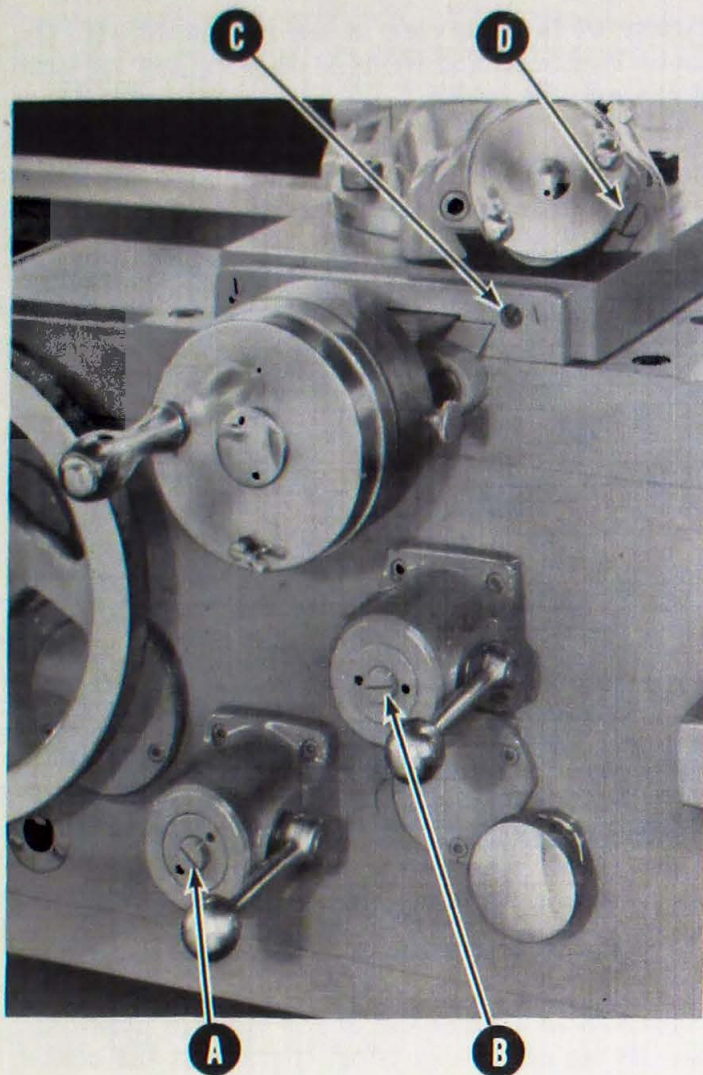

FIGURE 13
The longitudinal feed friction clutch is adjusted by turning screw (A), Figure 13, either in or out so the lever is moderately tight about halfway down toward the apron from the neutral position shown. The cross feed friction clutch is similarly adjusted by means of screw (B).